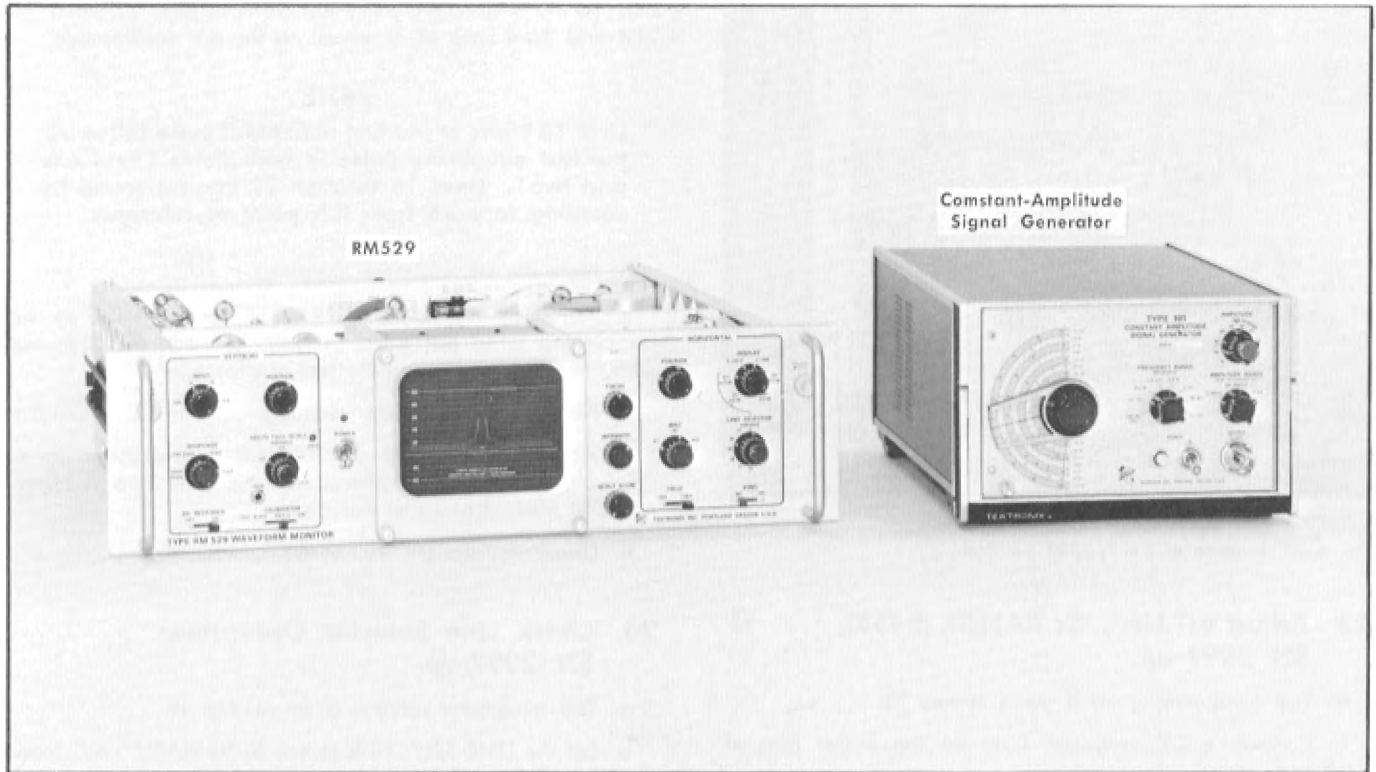
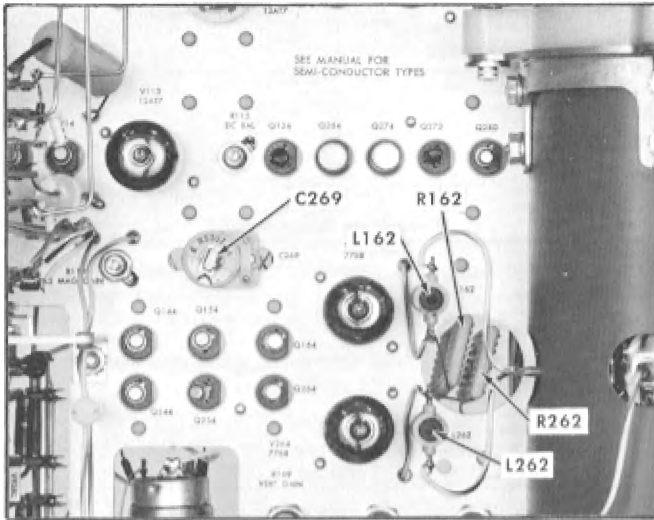

Fig. 6-32. Test equipment required for steps 25 through 30.
Fig. 6-33. Location of C369, R162, R262, L162 and L262.
- a. Test equipment setup as shown in Fig. 6-32.
26. Adjust Vertical-Amplifier 1.0 Flat-Frequency Response (C269, L162 and L262) ①
- c. Adjust the vertical amplifier components (see Fig. 6-33) as listed in Table 6-3 to obtain flat frequency response from 500 kHz to 8 MHz within +0%, -1% to 5 MHz and flat to within +0%, -3% to 8 MHz.
Vertical Amplifier Flat-Frequency Response Adjustments Shown in Fig. 6-33